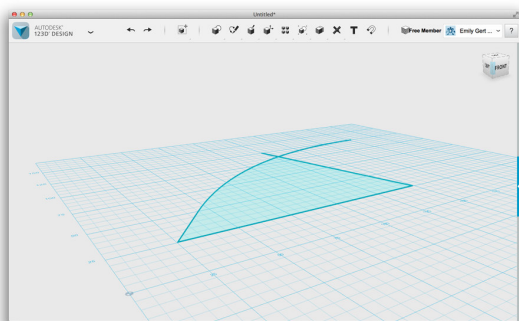

Figure 4-81 Remove the red line with a click
4. Click on the red line to remove it (Figure 4-81).